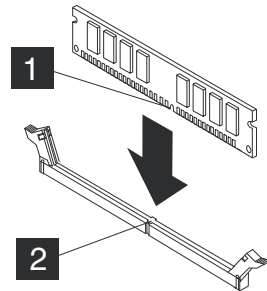

Figure 12. Installing the memory module
1. Position the replacement memory module **1** over the memory connector. Be sure the notch on the memory module aligns correctly with the connector key **2** on the memory connector. See Figure 12.